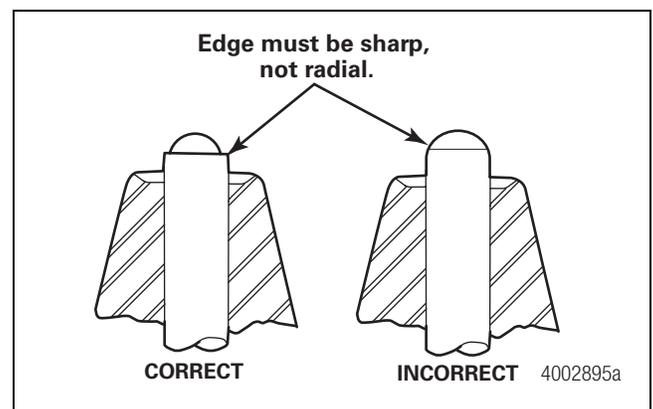

Figure 8.3
1. Inspect the edge of the anvil pin. The corner must be sharp, not radial. Figure 8.3.